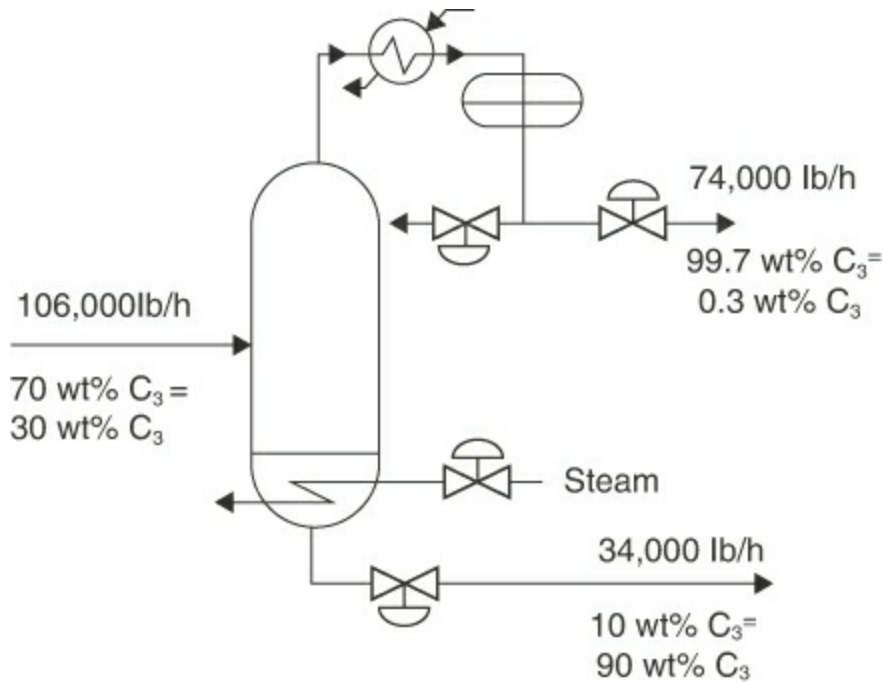

Figure P3.2.20
****3.2.20** Distillation columns are used to separate light boiling components from heavier boiling components and make up over 95% of the separation systems for the chemical process industries. A commonly used distillation column is a propylene-propane splitter. The overhead product from this column is used as a feedstock for the production of polypropylene, which is the largest quantity of plastic produced worldwide. Figure P3.2.20 shows a diagram of a propylene-propane splitter (C₃ refers to propane and C₃= refers to propylene). The steam is used to provide energy and is not involved in the process material balance. Assume that the composition and flow rates listed on this diagram came from process measurements. Determine if the overall material balance is satisfied for this system. Evaluate the component material balances as well. What can you conclude?